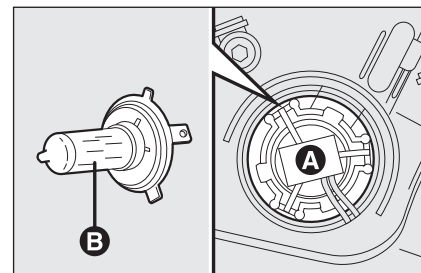

fig. 17
- ☐ press on the central electrical connector **A**-fig. 17 and withdraw the unit;